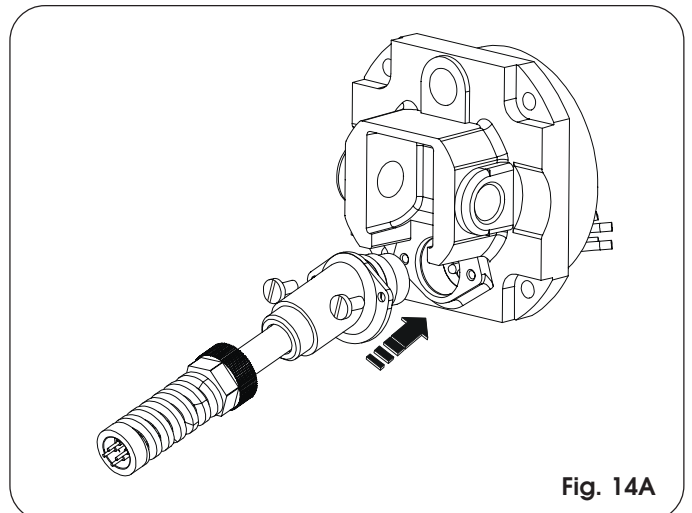

Fig. 14A
- Connect the power cable of the operator (Fig.14A).
- Fasten the screws (Fig. 14A).